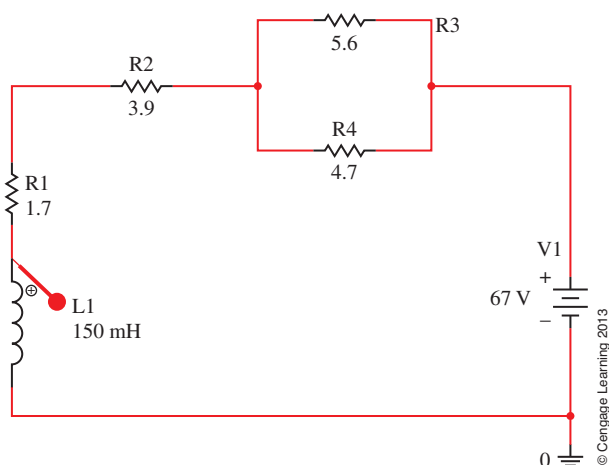

FIGURE 14-33 The voltage marker probe automatically creates the voltage trace of Figure 14-34. As is detailed in the text, you add the current trace later.
- Build the circuit on the screen as in Figure 14-33 (see Notes 1 and 2). Click the *New Profile* icon and name the file. In the *Simulations Settings* box, select transient analysis, set *TSTOP* to **90ms**, then click *OK*.